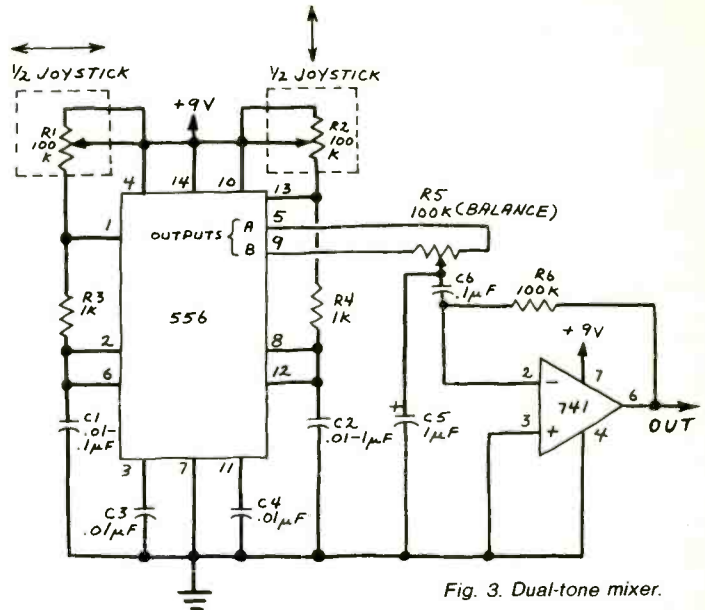

Fig. 3. Dual-tone mixer.
**Dual-Tone Mixer.** Figure 3 is an experimental joystick-controlled dual-tone mixer with which I've been experimenting. The circuit is designed around a 556 dual timer chip.
The 556 is functionally identical to two 555 timers on a single chip. Each half of the circuit in Fig. 3 is connected as an